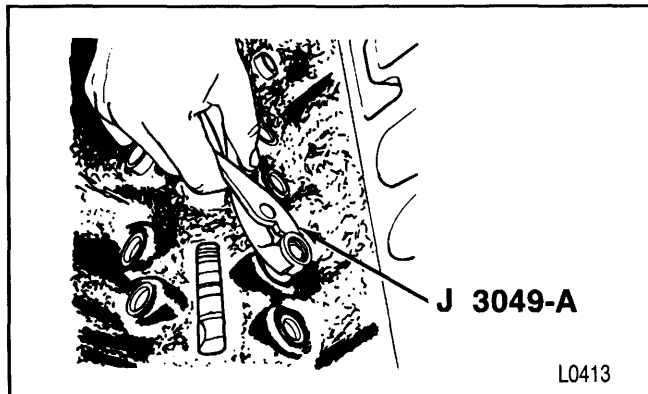
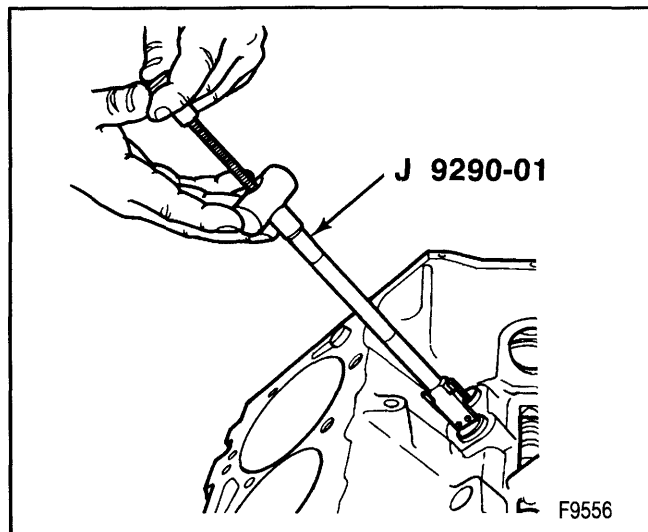

Figure 14—Removing the Hydraulic lifter
Figure 15—Removing the Hydraulic Lifter
HYDRAULIC LIFTER REPLACEMENT**Remove or Disconnect (Figures 14 and 15)**
- A stuck hydraulic lifter can be removed using J 3049-A (figure 14) or J 9290-01 (figure 15).